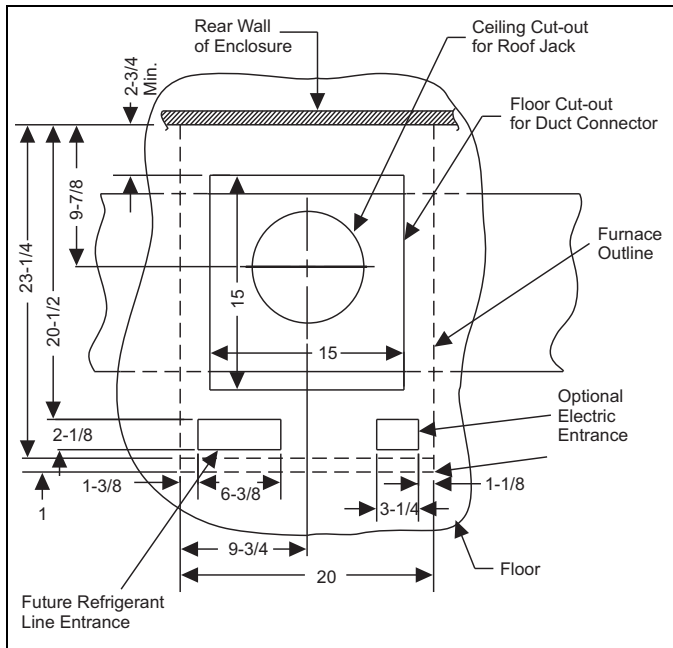

FIGURE 5: Recommended Floor Cut-out (7990 Series)
1. Make floor cut out as shown in Figure 5.